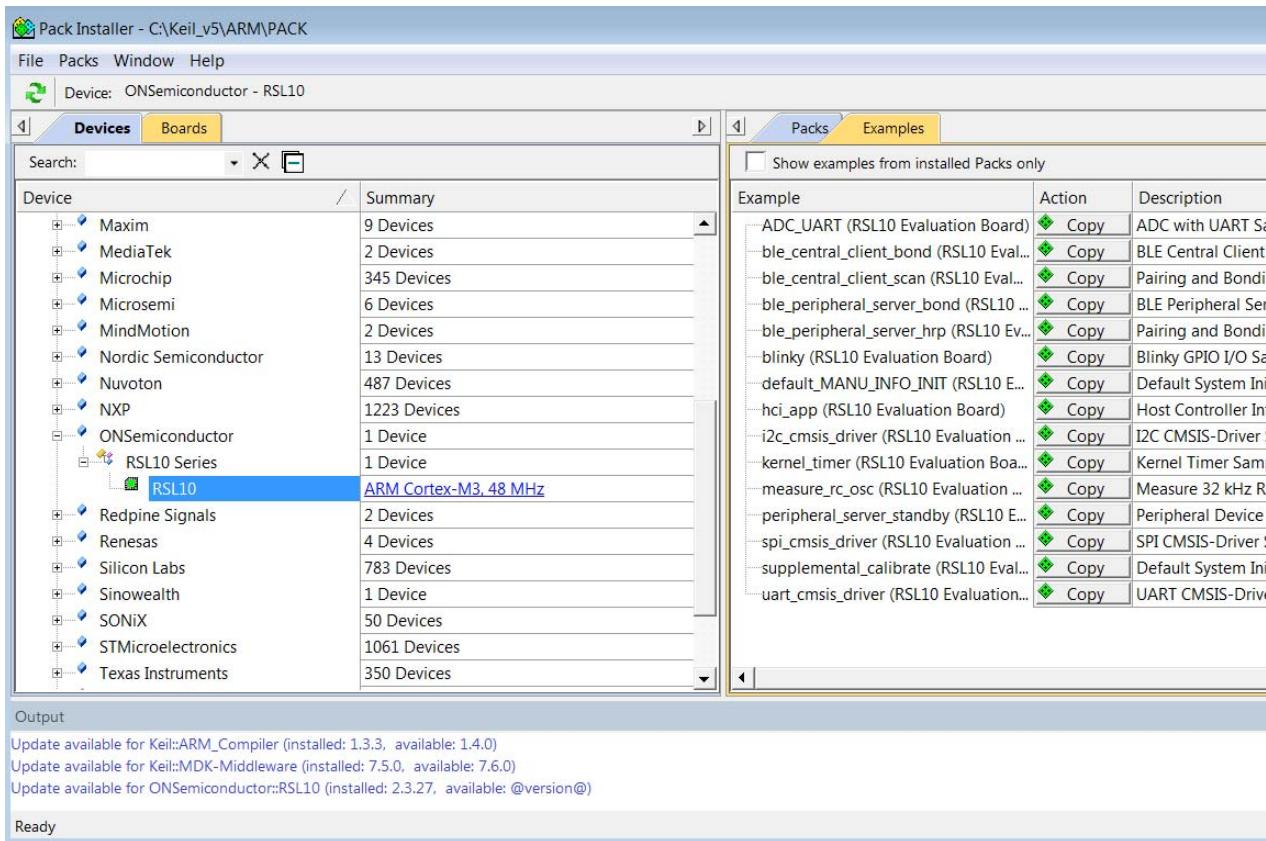

Figure 19. Pack Installer after RSL10 CMSIS-Pack is Installed in the Keil µVision IDE
- The RSL10 CMSIS-Pack now appears in the list of installed packs. In the **Devices** tab, if you expand **All Devices > ONSemiconductor > RSL10 Series**, you can see RSL10 listed there. You can manage your installed packs in the **Packs** tab. Expanding **ONSemiconductor > RSL10** makes the **Pack Properties** tab display the details of the RSL10 CMSIS-Pack. Figure 19 illustrates what the Pack Installer perspective looks like after installation.